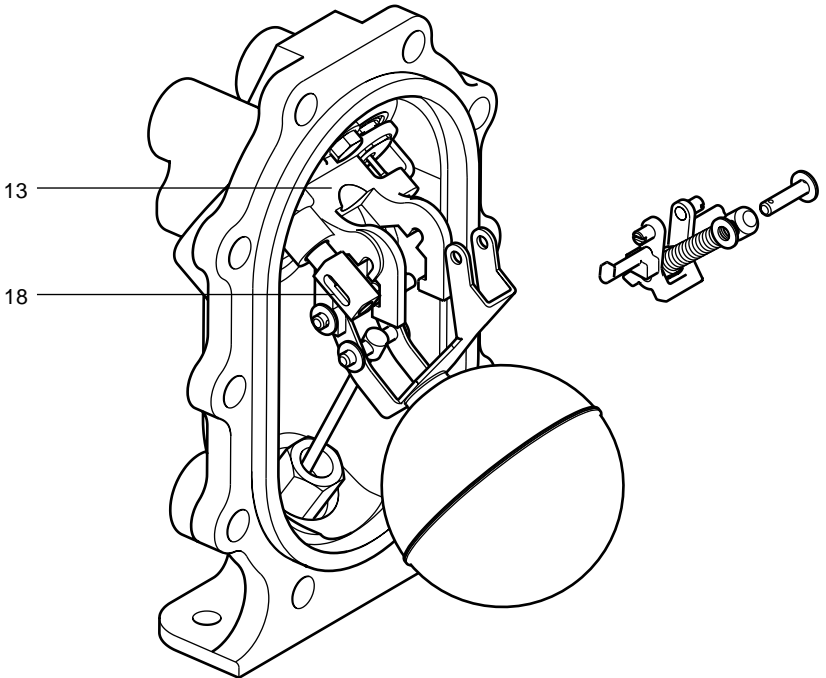

Fig. 5
**Note:** There is no need to remove the spring from the actuator arm, as both these items are supplied fully assembled in the spares kit (See Fig. 5).
10. **Fitting the new spring and actuator arm is the opposite to removal.** Remember to compress the small spring within the exhaust valve (item 18) before refitting to the tanged spigot of the new actuator arm.
11. Ensure the actuator is correctly aligned and located within the slots of the pump bracket (item 13).
13. Always use new split pins and washers when refitting the spring retaining shaft (Y).
16. Carefully reconnect the motive steam supply and the exhaust lines to the connections marked (S) and (E) and the condensate inlet and outlet to the connections marked (IN) and (OUT). The APT10 is now ready to recommission.